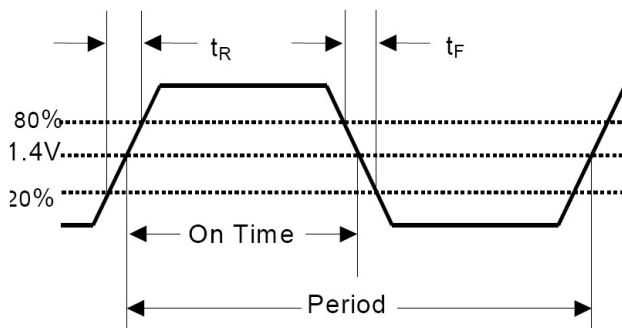
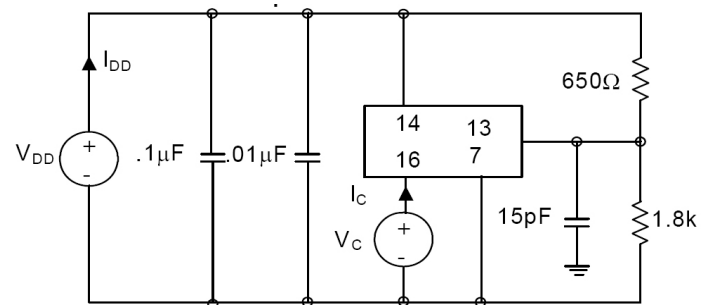

Figure 2. Output Waveform
Figure 3. OUT1, OUT2, RCLK, RDATA Test Conditions (25 \pm 5°C)
2. Figure 2 defines these parameters. Figure 3 illustrates the equivalent five gate TTL load and operating conditions under which these parameters are tested and specified. Loads greater than 15 pF will adversely effect rise/fall time as well as symmetry.